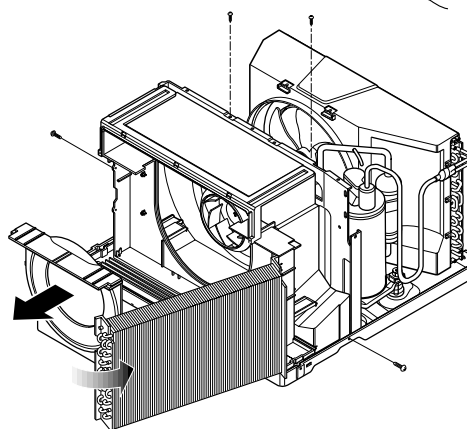

Figure 19
9. Move the evaporator forward and pulling it upward slightly. (See Figure 19)